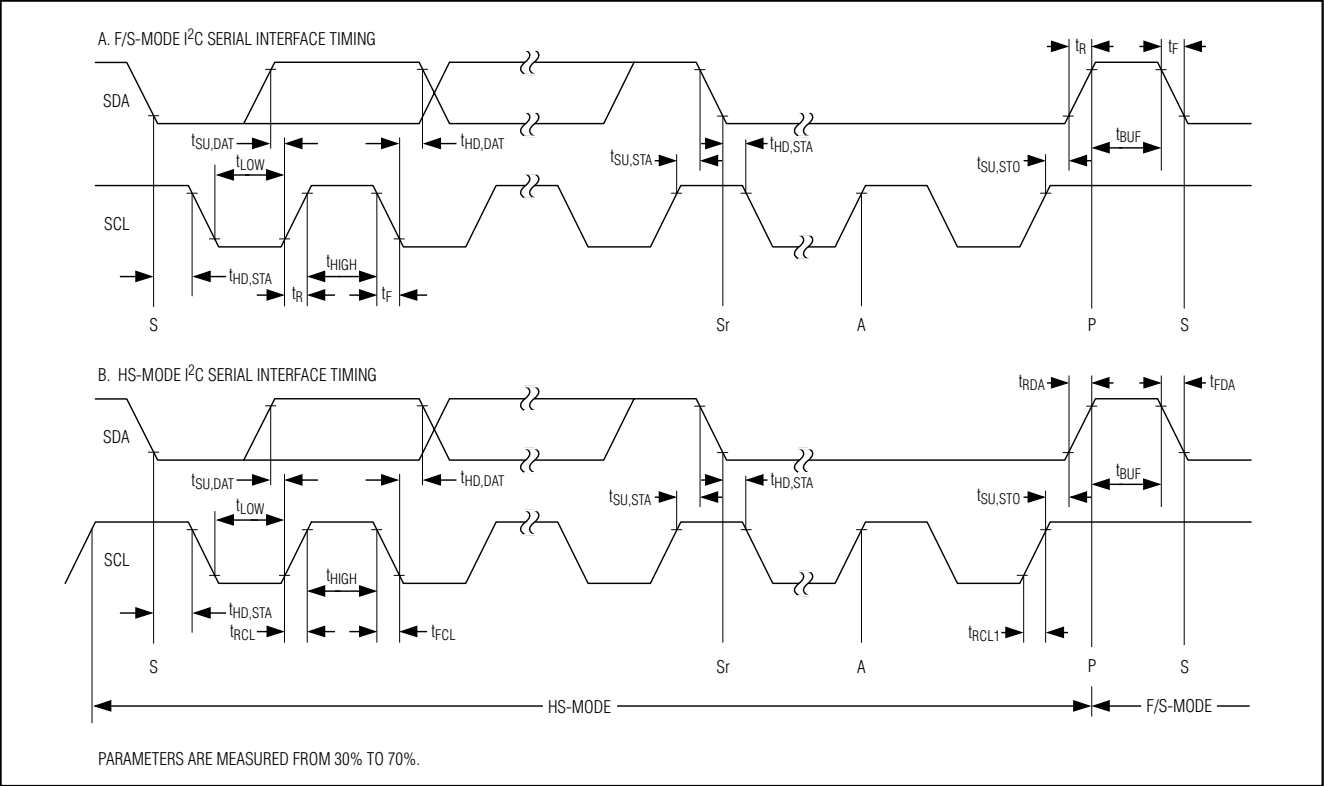

Figure 1. I²C Serial Interface Timing
- Note 9:** A master device must provide a data hold time for SDA (referred to V_{IL} of SCL) in order to bridge the undefined region of SCL's falling edge (see Figure 1).